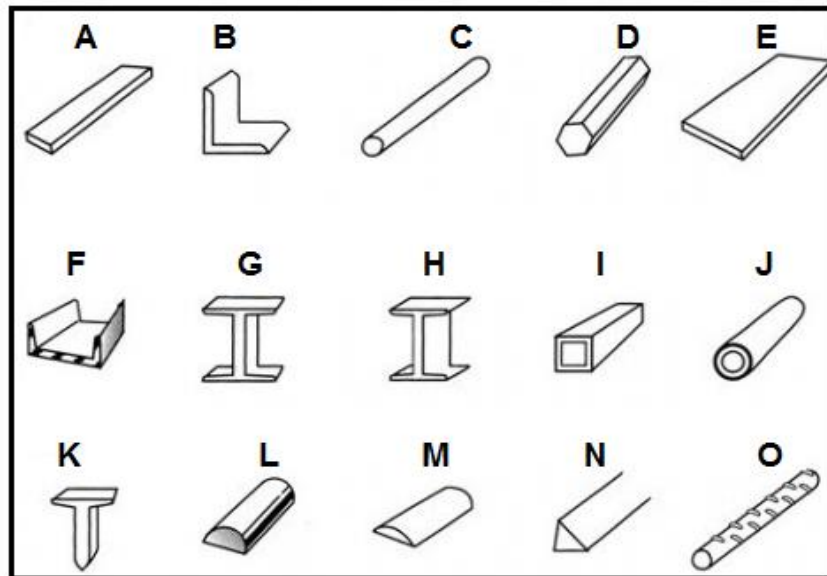

FIGURE 1
- 2.5 The different sections of material that are available for use in the industry are shown in FIGURE 1 below.
Indicate which of the sketches (A–O) in FIGURE 1 represents the items listed below (2.5.1–2.5.3) by writing only the corresponding alphabet letter next to the question number (2.5.1–2.5.3) in the ANSWER BOOK.